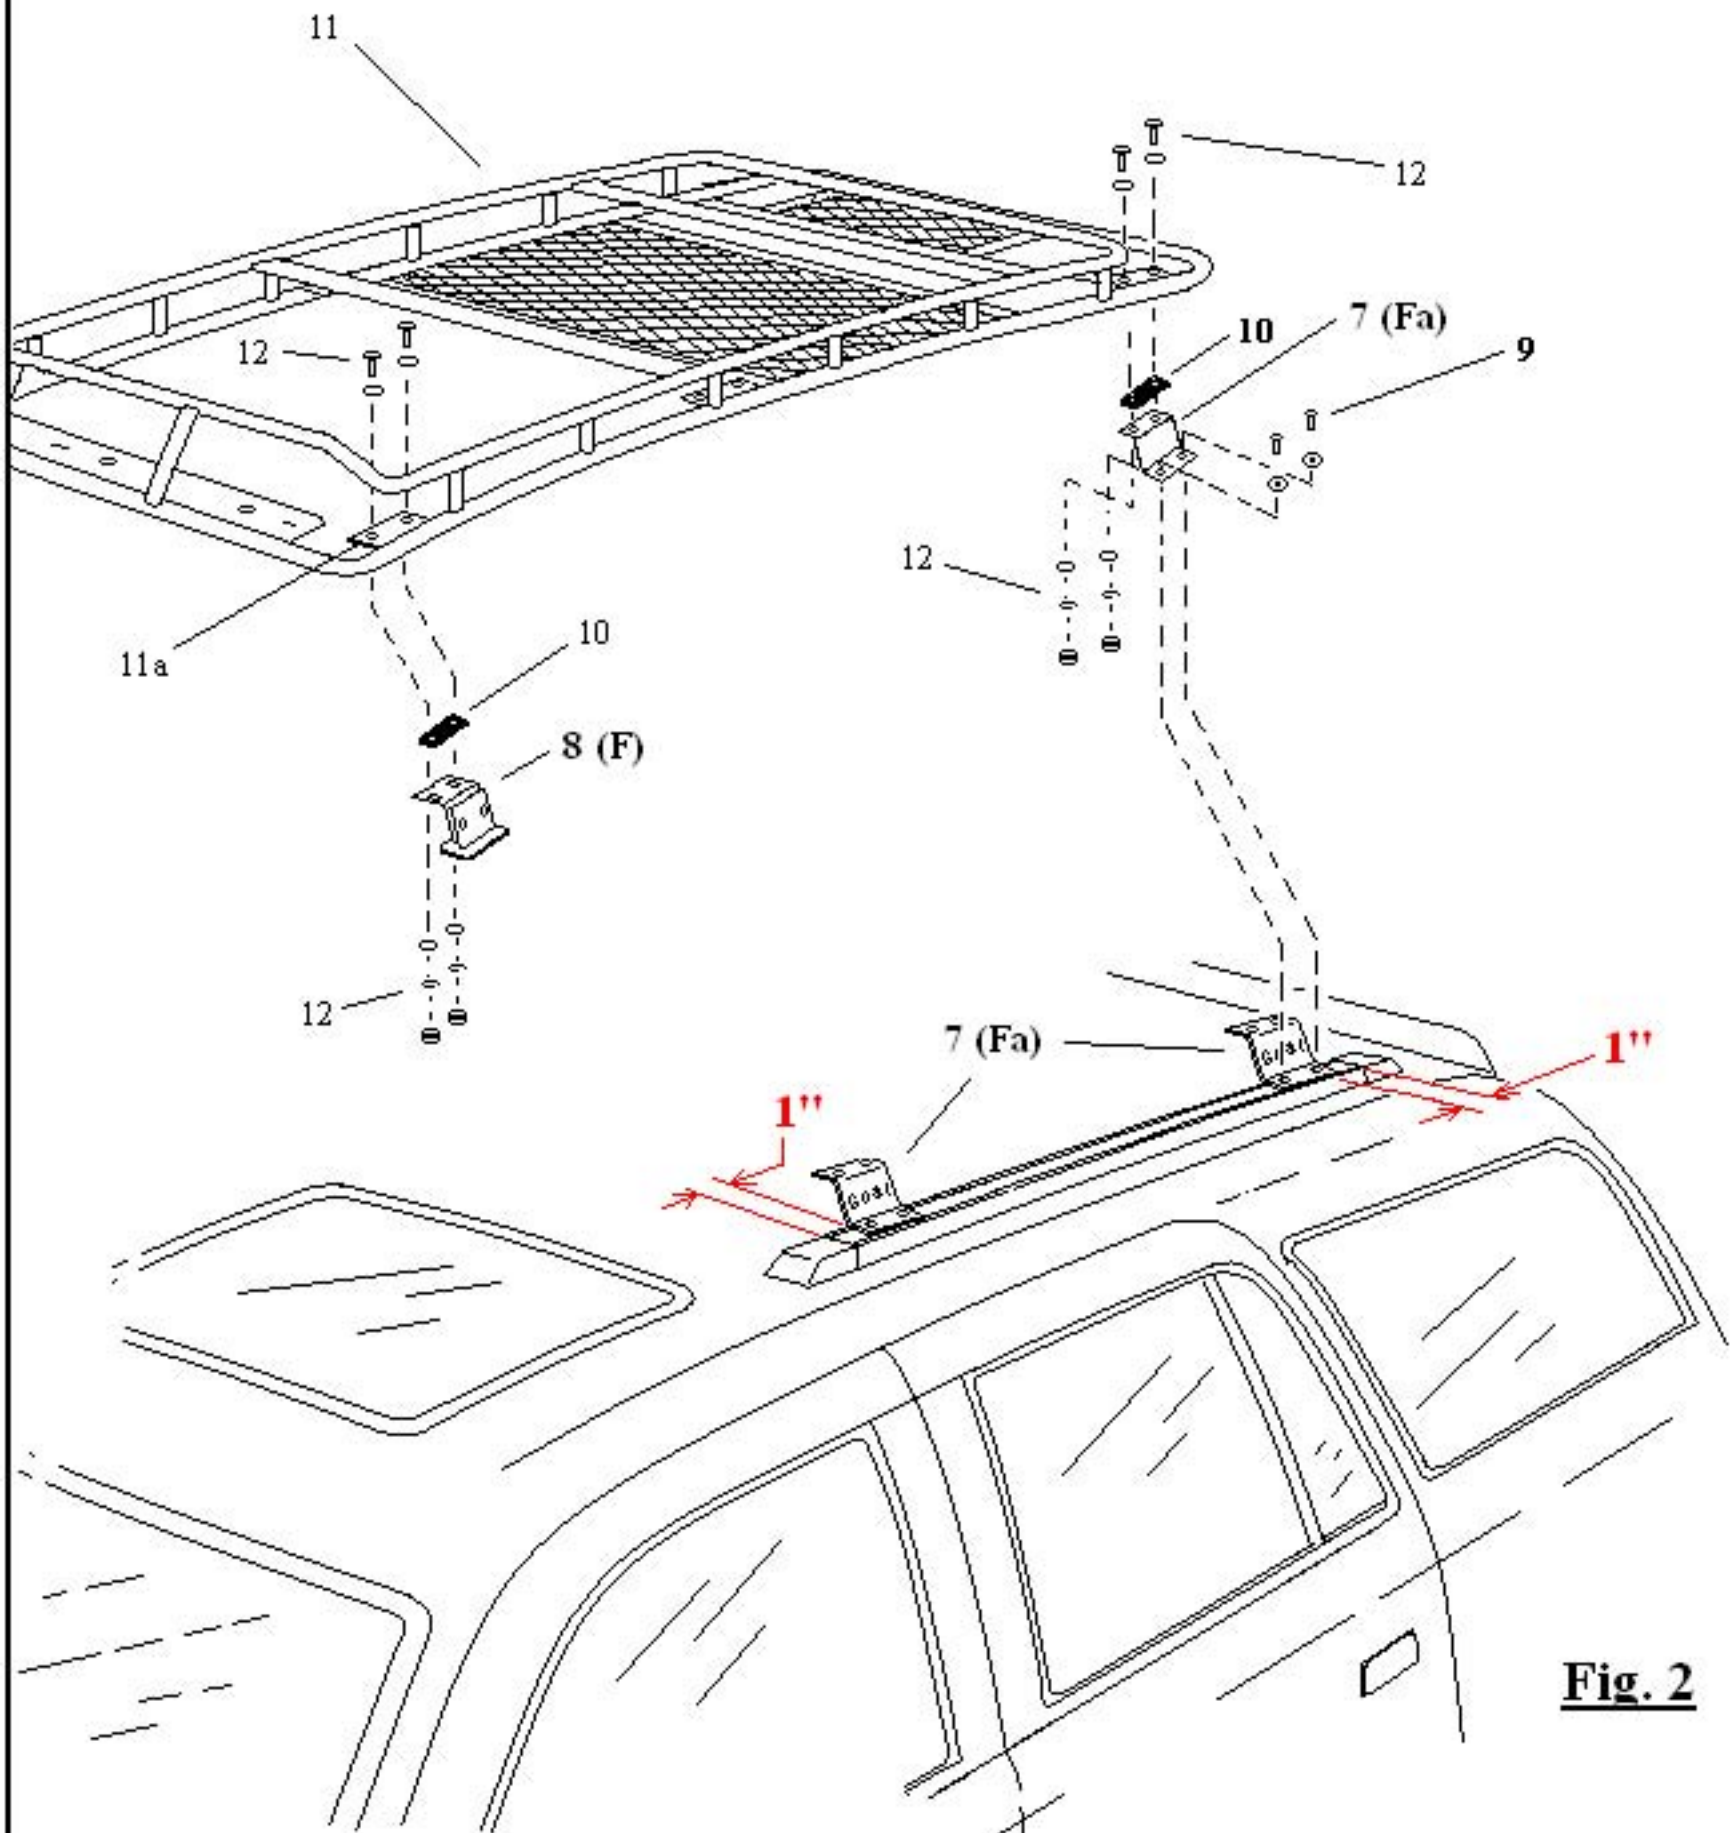

Fig. 2
- 4- Refer to page 6 Fig. 2 and install the GOBI support brackets #7 (Fa) as shown onto all "T"- nuts previously installed in roof rack rails using the 3/16" Allen wrench and the (#9) 5/16 -18 x 3/4" button head screws, lock washers and flat washers located in Bag #3 of your hardware kit. Slide each GOBI support bracket as shown on page 6 Fig. 2 approximately 1" from the end of each roof rail not including end caps (#5). Snug down only at this time using the 3/16" Allen wrench located in Bag #3.
- 5- Refer to page 6 Fig. 2 and attach both #8 (F) support brackets located in your hardware box to the front of the roof rack (#11) making sure to place each support bracket as labeled Drivers side and Passenger side. Place a black rubber pad (#10) located in Bag #4 between flange (#11a) of the roof rack and support bracket #8(F). Use the (#12) 3/8-16 x 1" SS Hex head bolt, washers, lock washers and nuts located in Bag #4 of your hardware kit to secure the brackets in place. Finger tighten only at this time.
- 6- Refer to page 6 Fig. 2 and place the Gobi roof rack #11 onto the 4 previously installed GOBI support brackets #7(Fa) as shown. Place a rubber pad (#10) between each support bracket and roof rack flange as before and use the (#12) 3/8-16 x 1" hex head bolts, washers, lock washers and nuts located in Bag #4 of the hardware kit to secure roof rack in place. Finger tighten only at this time.